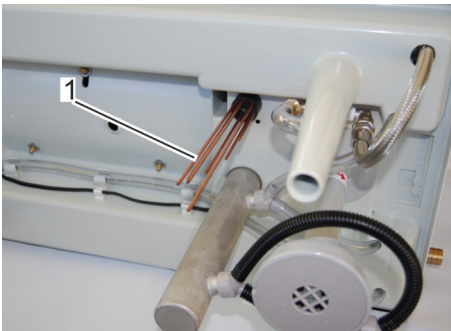

Fig. 26: Cleaning the electrode rods
8. ➤ Check the electrode rods for water level measurement (Fig. 26/1) for contamination. If required, use a cloth or sponge to remove lime or other residues.